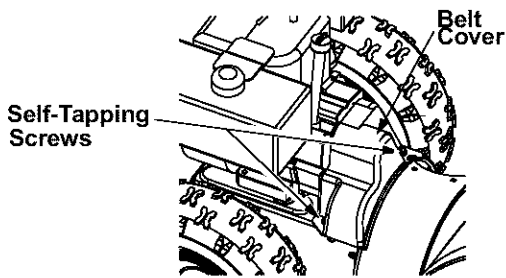

Figure 16
- Remove the plastic belt cover on the front of the engine by removing the two self-tapping screws. See Figure 16.